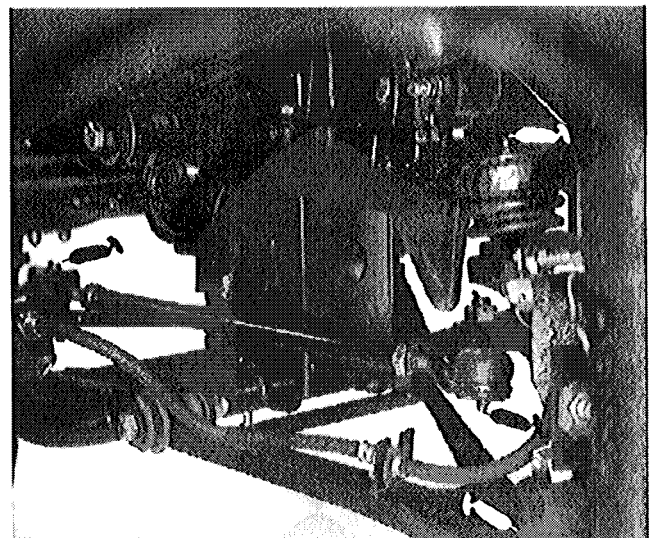
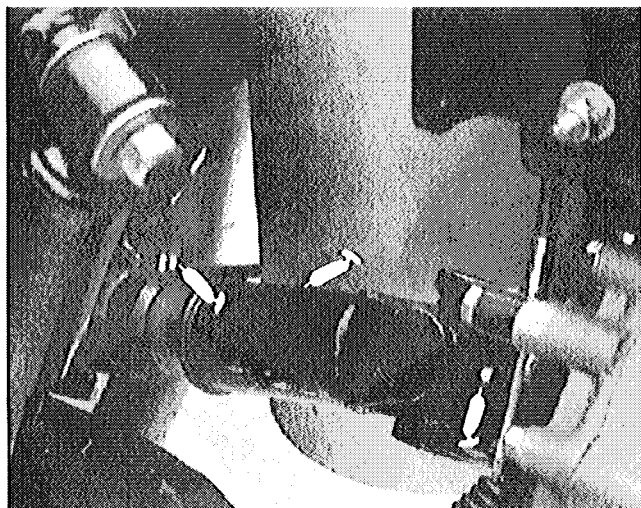
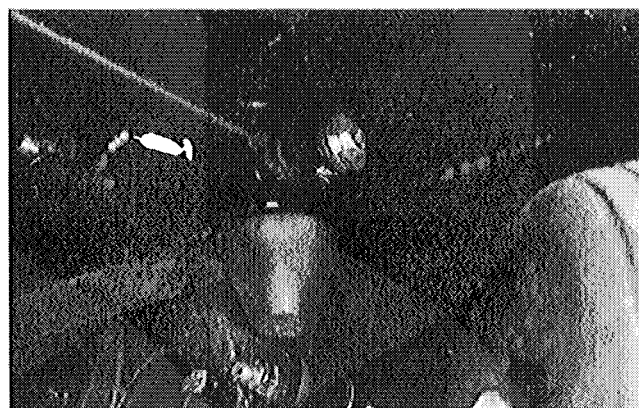
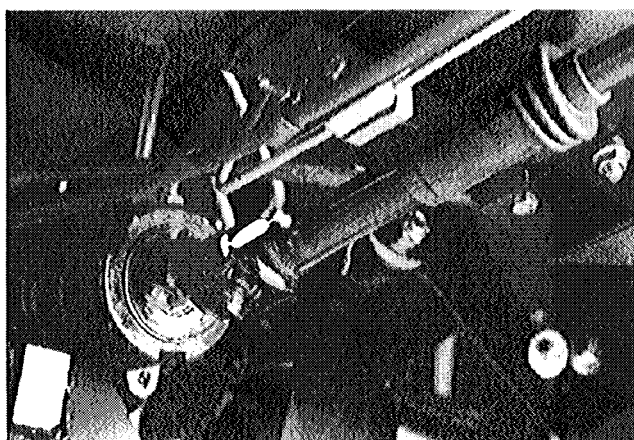

Figure 27
Figure 28
Figure 29
Figure 30
The grease fitting locations and quantities are: Tie rod ends (4) (Fig. 27), Front ball joints (4) (Fig. 27), Rear drive shafts (6) (Fig. 28) Front pivot bushings (2) (Fig. 29) and Steering shaft (1) (Fig. 30).